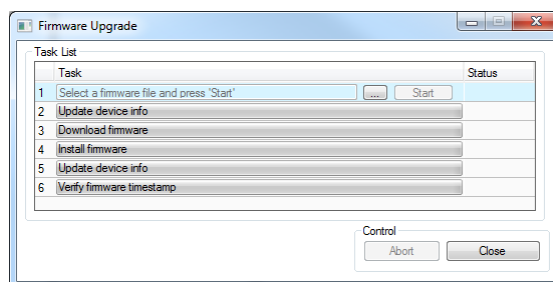

Figure 179: Firmware Update dialog of the Configurator
6. This opens the Firmware Update dialog as shown in Figure 179. Click on the button  and select the firmware image.